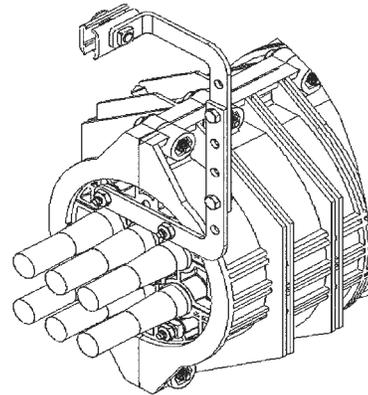

FIGURE 52 - SECURE HANGER BRACKET
17.04 Secure hanger bracket to ground inserts with hex nuts and tighten. When reattaching hex nut, secure using a can wrench, or torque wrench set no higher than 40 inch/pounds. (Figure 52)